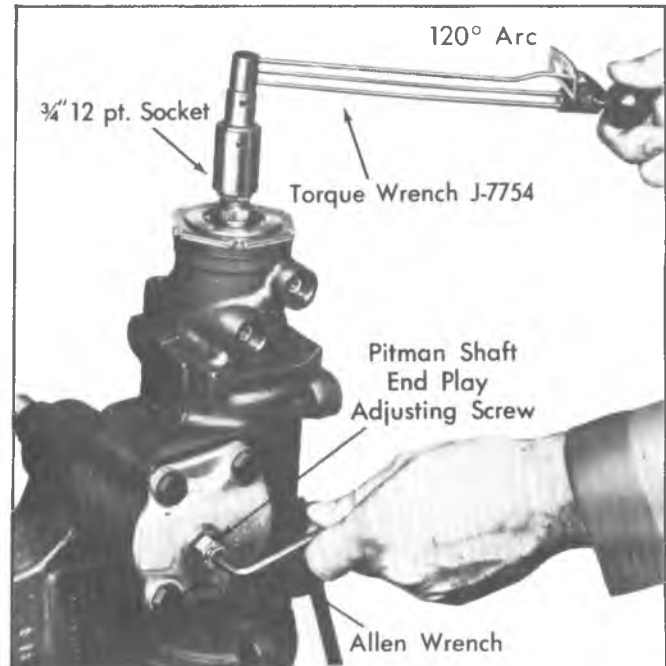

Fig. 61—Adjusting Over Center Preload
9. Adjust the over-center preload (Fig. 61) as follows: